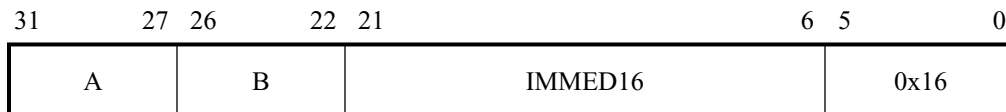

Figure 14. Format for the **blt** instruction.
- Derive the machine code representation of the instruction `blt r7, r8, LOOP`. In the *Nios II Processor Reference Handbook*, which is available on Altera's website, we can find that the **blt** instruction has the format shown in Figure 14. Use registers *r7* and *r8* as registers *A* and *B*, respectively, and determine the branch offset needed to branch to the instruction at location LOOP.